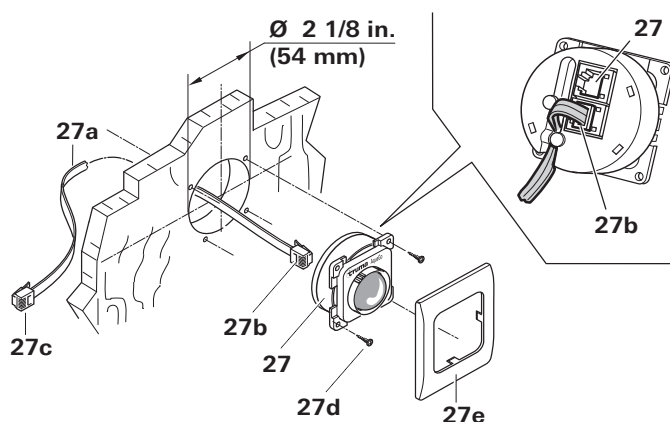

Fig. 17
- Install the control panel (Fig. 17- 27) where it can be seen easily.
- Insert the plug (27b) on the control panel (27) until it clicks into place.